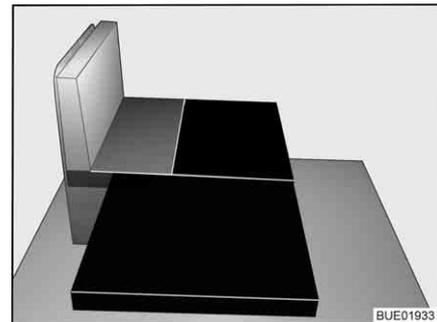

Fig. 34 After conversion
- Place large additional cushion on the cushion support (refer to Fig. 34).